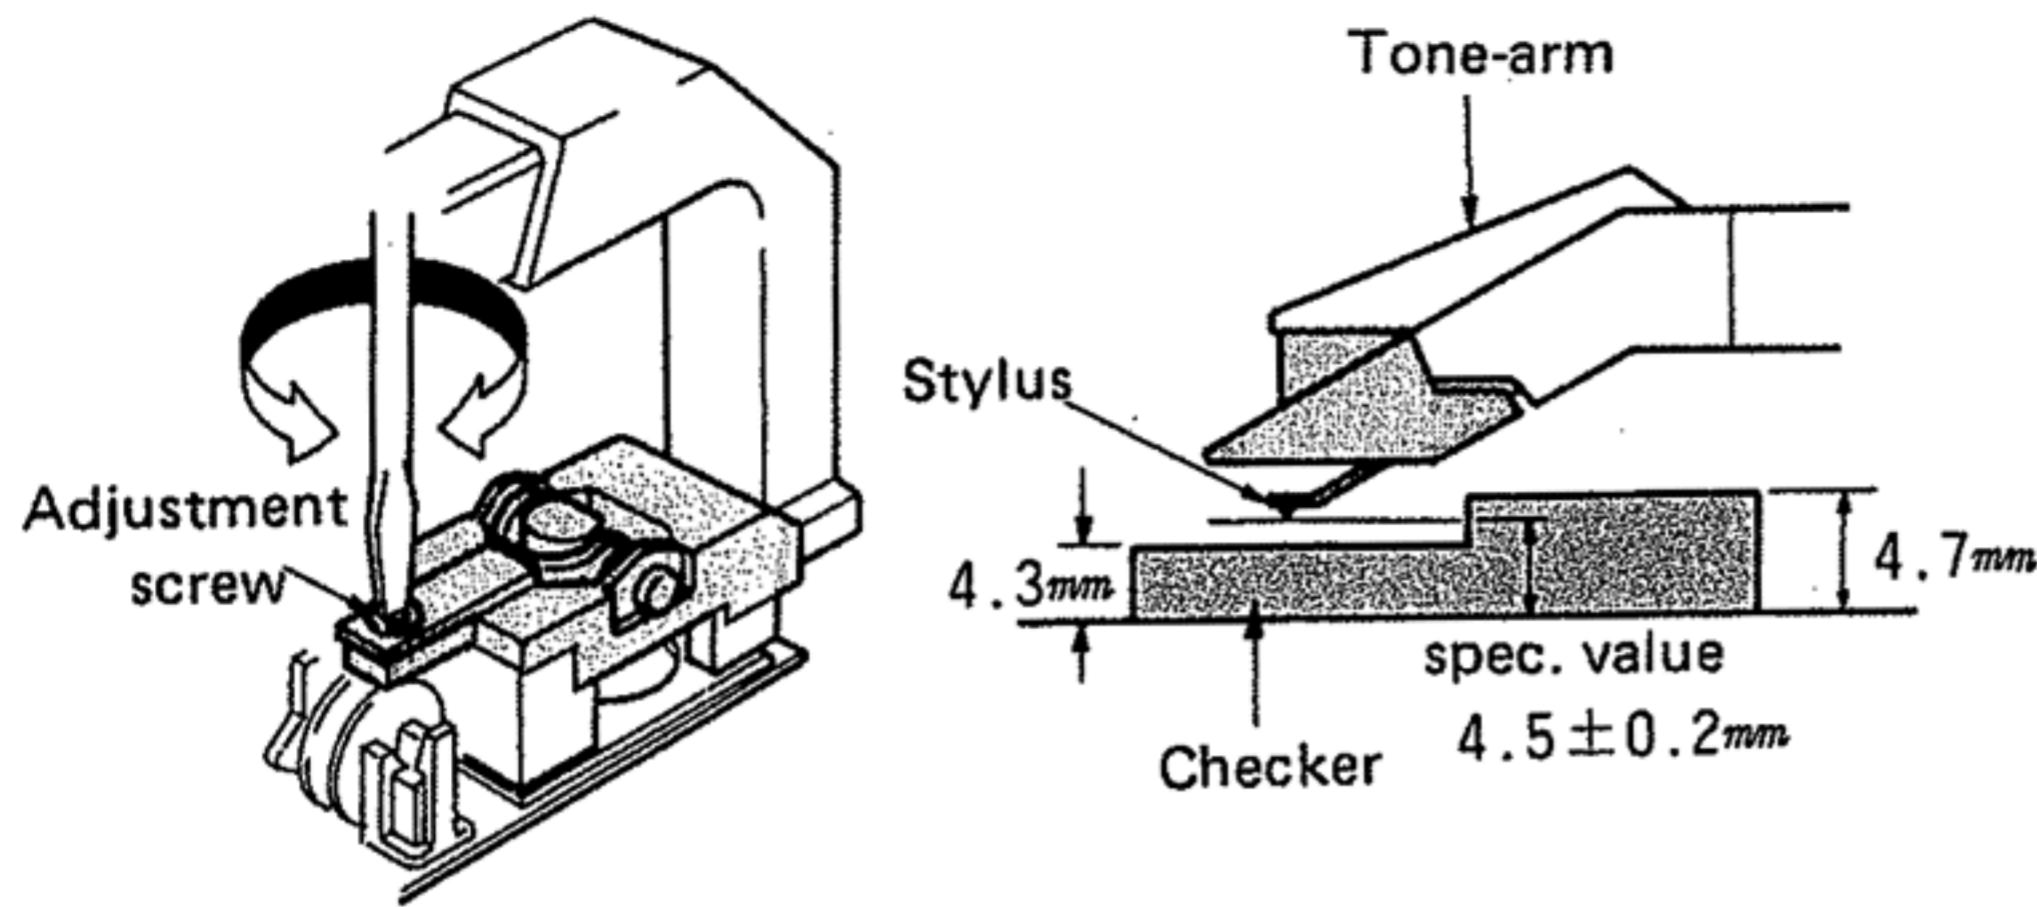

Fig. 1
- 1) Put the checker on the brim of the rubber sheet. Then, adjust the adjustment screw so as that the point of the stylus reaches the height as illustrated. (See Figure 1)